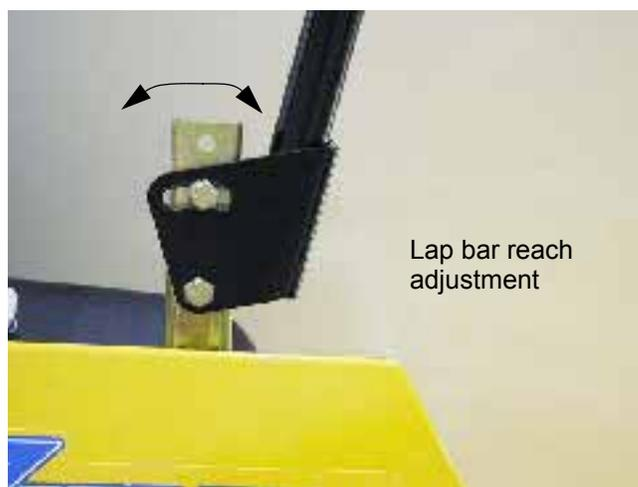

Figure 7.4
- 7.4. Tighten the bolts that hold the lap bars to the steering pivot brackets. See Figure 7.4.